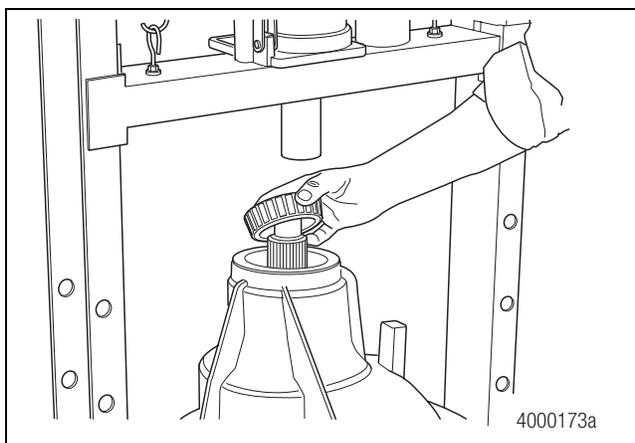

Figure 5.8
- Install the outer bearing cone into the carrier. Figure 5.8.